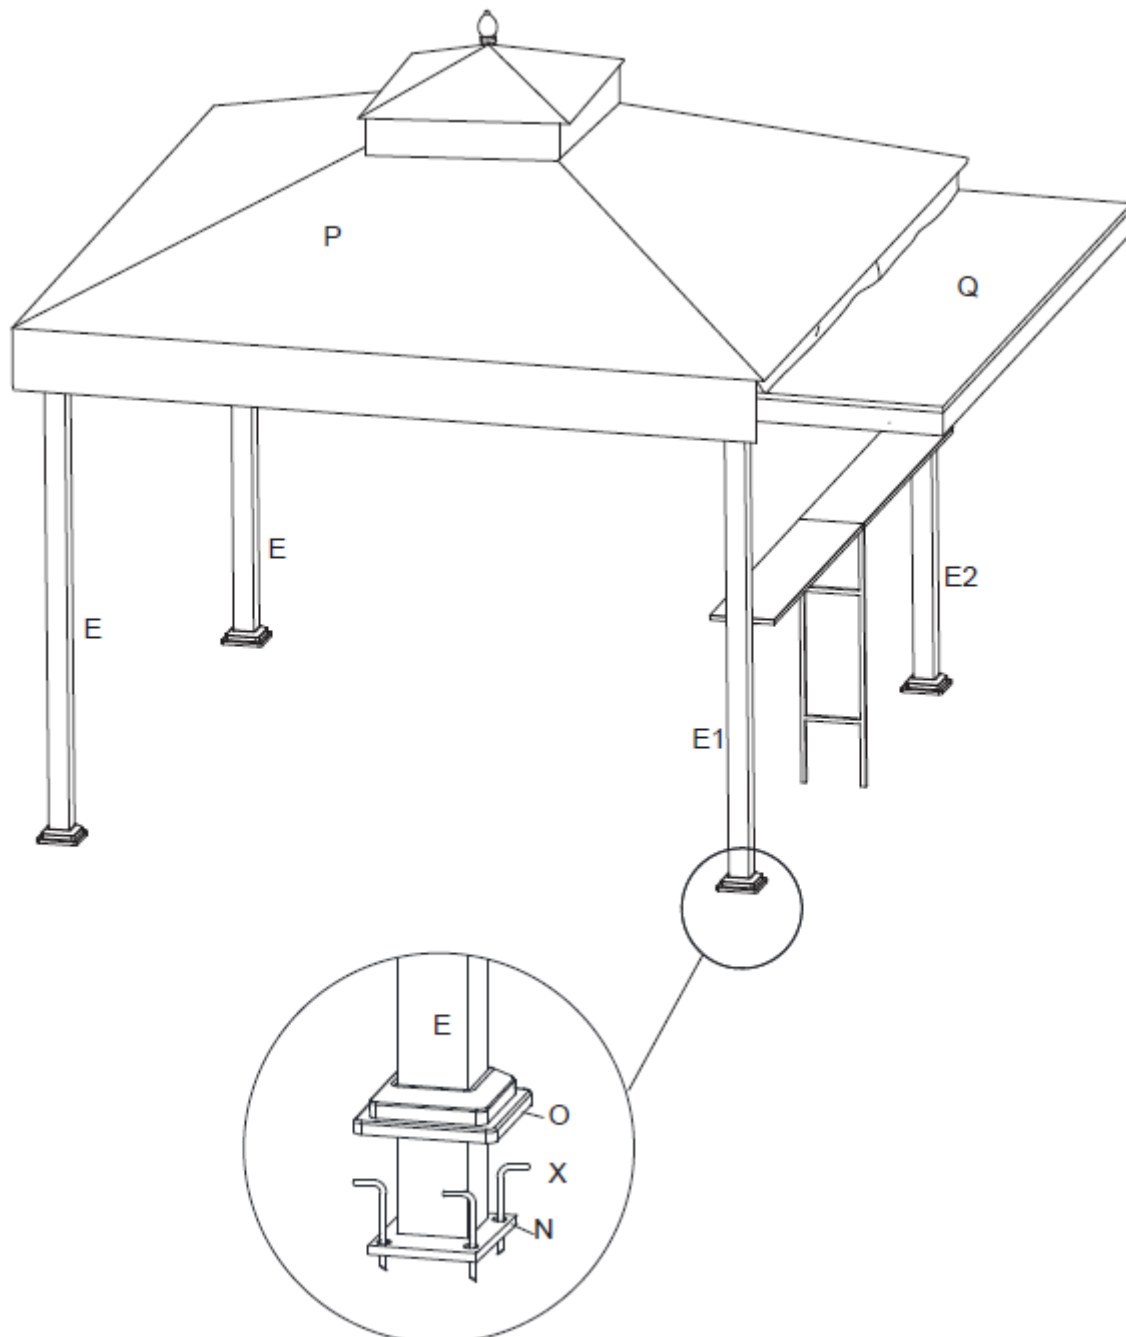

Fig.25
**Step 14:** Insert four Stakes (X) into the ground through the Base Plate (N). Repeat for each corner. See Figure 25.